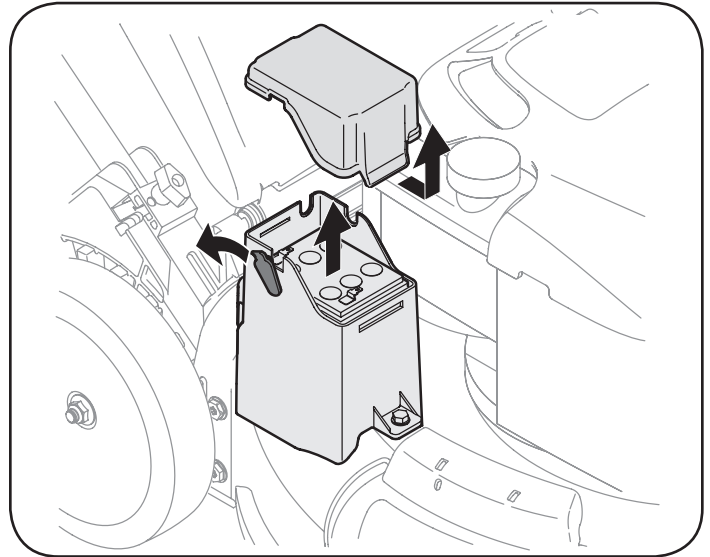

Figure 19
2. Remove positive and negative leads from battery, and pull up on battery to remove. See Figure 19.